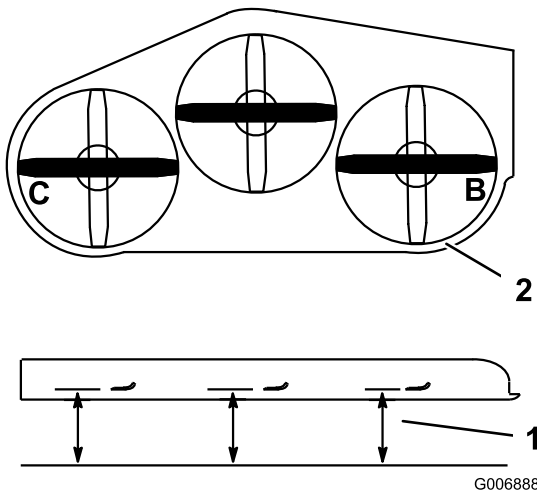

Figure 84
3. Position the blades side-to-side. Measure at **B** and **C** locations from a level surface to the cutting edge of blade tips (Figure 84).